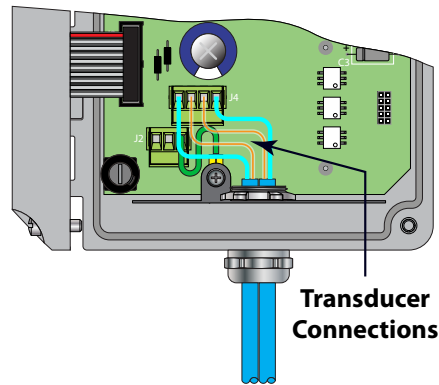

Figure 13: Transducer cable installation
1. Guide the transducer connectors through the middle conduit hole located of the transmitter enclosure. Secure the transducer cable with the supplied conduit nut (See *Figure 13*).